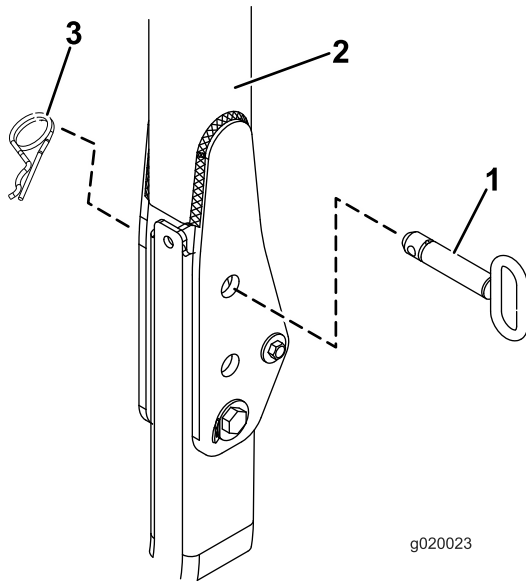

Figure 29
2. **For Reelmaster 3555 and 3575 traction units**, skip to step 10. For all other models, with the roll bar in the raised position, remove the hairpin cotters and the 2 pins (Figure 29).